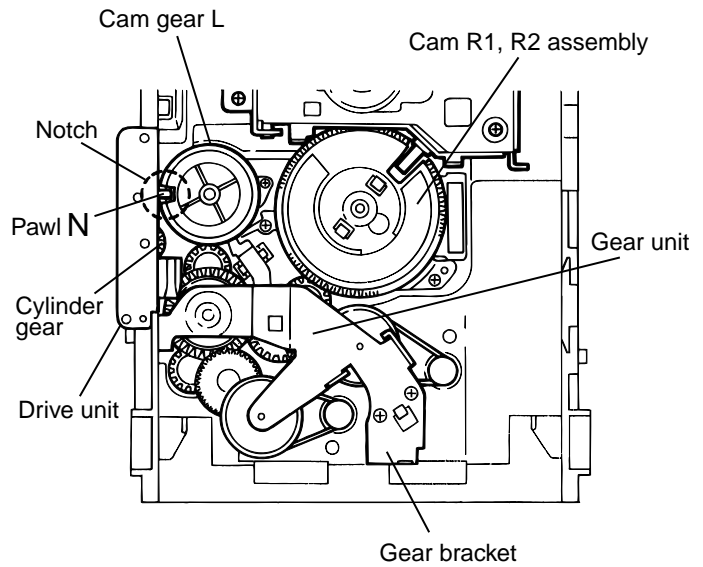

Fig.23
**[Caution]** To reassemble the cylinder gear, etc.with the cam unit (cam gear and cans R1/R2 assembly), gear unit and drive unit, align the position of the pawl “N” on the drive unit to that of the notch on the cam gear L. Then, make sure that the gear unit is engaged by turning the cam gear L (See Fig. 23).